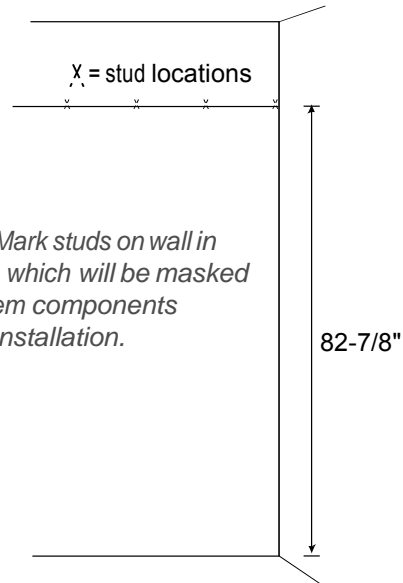

Fig. 2
5. On the closet wall, locate and mark the studs in the wall at 82-7/8" from the floor. (See Fig. 2.)
For purposes of illustration, rail cover not shown in Figs. 2 and 4.